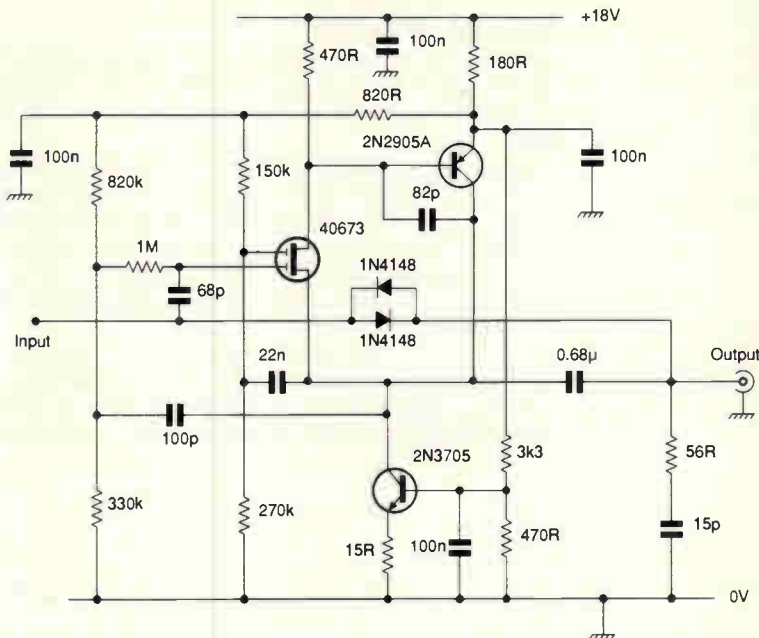

Fig. 9. In conjunction with a short top loaded whip (see text), this circuit provides excellent reception over the band 100kHz-30MHz.
Figure 9 shows a suitable amplifier. It is connected to a vertical wire some 400mm high, inside a supporting plastic tube, topped by a metal disc 250mm in diameter. Details of the excellent electrical performance of the complete active antenna can be found ref. 2.